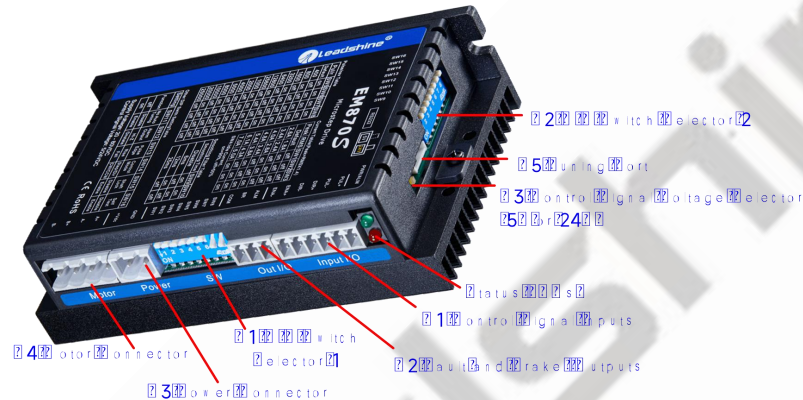

Figure 2 Connectors, DIP switches, and LED locations
(6) The activated edge of PUL and DIR is set by DIP Switch SW13
(7) The factory setting of control signal voltage is 24V, must need to set S3 (figure 2) if it is 5V
ENA-	(3) ENA signal requires advance DIR signal minimum 5μs in single pulse mode (4) The default control signal voltage is 24V, to set S3 (figure 2) if it is 5V (5) Enable time to be at least 200ms
The DM870 can accept differential or single-ended control signals (pulse, direction, and enable) in open-collector or PNP connection through the P1 connector (figure 2). It is recommend to add an EMI line filter between the power supply and the drive to increase noise immunity for the drive in interference environments.
The first 8-bit is located on the side (DIP switch selector 1 in Figure 2) and used to configure settings of micro step resolution, output current, and motor standstill current as shown below, the factory setting of SW1-SW8 is **OFF, OFF, OFF, OFF, OFF, OFF, ON, ON**.
The second 8-bit DIP switch is located on the top (DIP switch selector 2 in figure 2), and used to configure settings of control command filtering time, motor auto-configuration, fault output impedance, pulse active edge, control mode, lock shaft, and self-test as shown below, the factory setting of SW1-SW8 is **OFF, OFF, OFF, ON, ON, OFF, OFF, OFF**.
The Third 1-bit selector is located on the top (DIP switch selector 3 in figure 2), used to configure the voltage of control signals. For the safety of optically coupled, the factory setting is 24V, which no need to connect 2K resistors like the old drives, making it easier to use. When the voltage of the control signal is 5V, the S3 must be set to 5V, otherwise, the motor won't work.